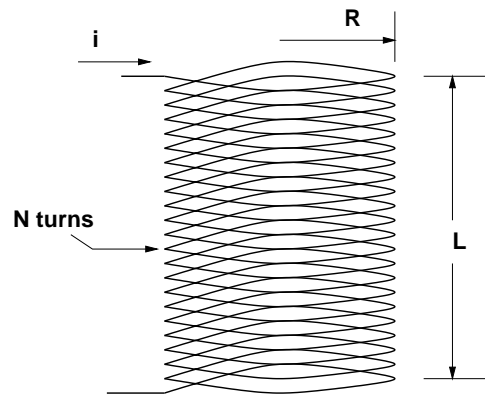

Figure 1: Coil for Problem 1
**Problem 1:** (Ripped off from Fitzgerald, Kingsley and Umans, Fifth Edition, Problem 3-19). Do this problem using *both* energy methods and the Maxwell Stress Tensor. You should get the same answer! Figure 1 shows a simple, circular coil, with radius  $R$ , axial length  $L$  and with  $N$  turns. The coil carries current  $i$ . Assume this solenoid is long relative to its diameter ( $L \gg R$ ), so that the magnetic field inside the cylinder is axially directed and essentially uniform, and that fields external to the coil may be neglected. Calculate the radial pressure acting on the sides of the coil for constant coil current  $i = I_0$ . What is the hoop force (force per unit of length) acting on the coil?